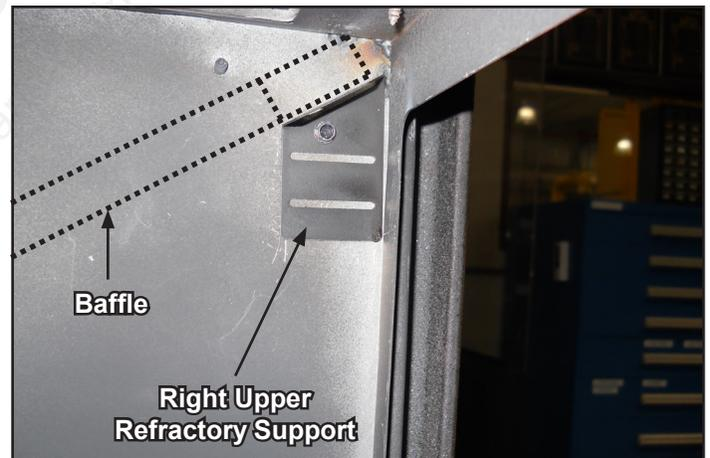
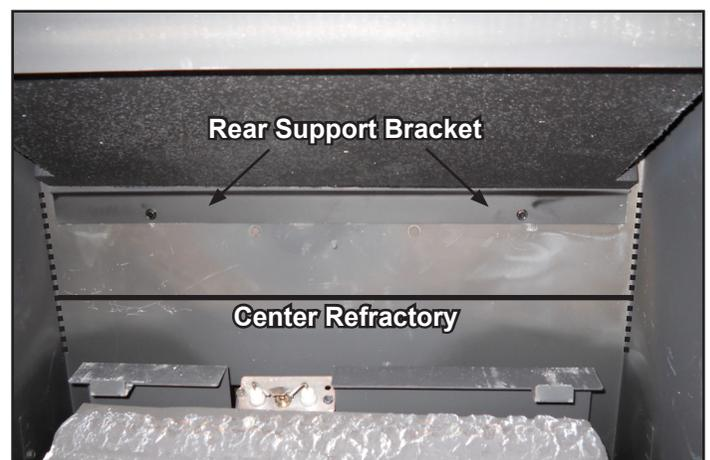

Figure 10.3 - Right Upper Refractory Support
Figure 10.4 - Installed Top refractory
4. With refractory inside the appliance, slide front/top edge of refractory on top of the front refractory brackets. See Figure 10.3. Slide refractory forward until it contacts the front of the inner firebox. Slide refractory down towards the rear so the back edge of the refractory rests on the rear support bracket. Center the refractory left and right. See Figure 10.4.